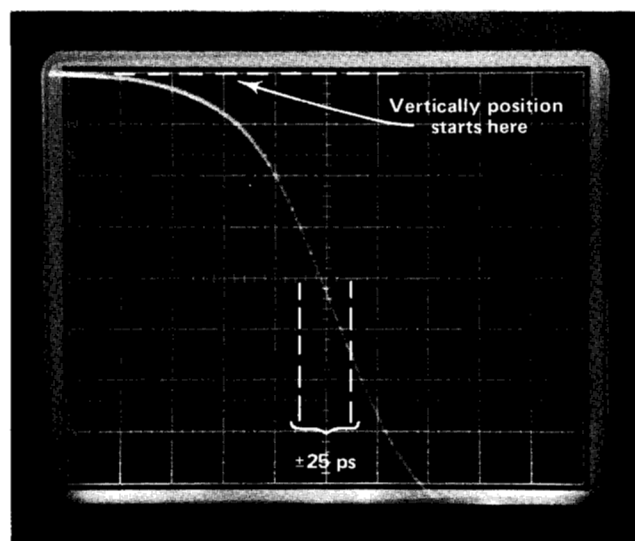

Fig. 6. -INPUT signal.
6. Vertically position the trace so that the pulse (now negative going) starts at the graticule upper left side. Check that the trace intersects the horizontal graticule centerline within  $\pm 25$  ps of the vertical line, see Fig. 6.